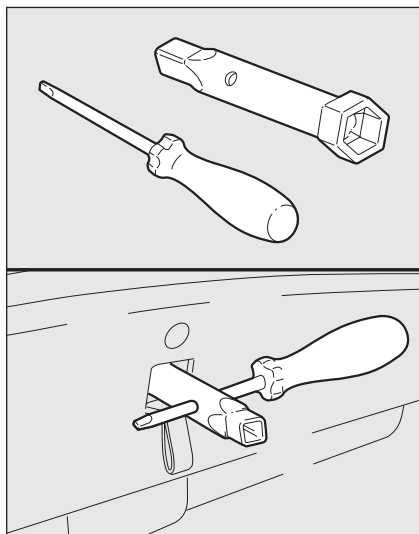

fig. 67
- ☐ with the relevant tube key located in the trunk and the screw driver (fig. 67) included in the supply turn the nut to open the lock of the top cover (a quarter clockwise turn right);
- ❑ close the top cover with the key (see **fig. 67**);